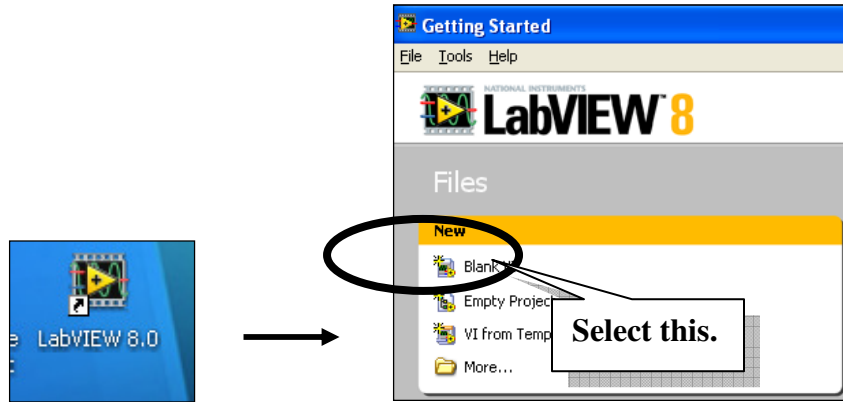

Figure 1. Opening a blank virtual instrument (VI).
1. Log on to **Labview 8.0** and open a **Blank VI**. (see Figure 1.)